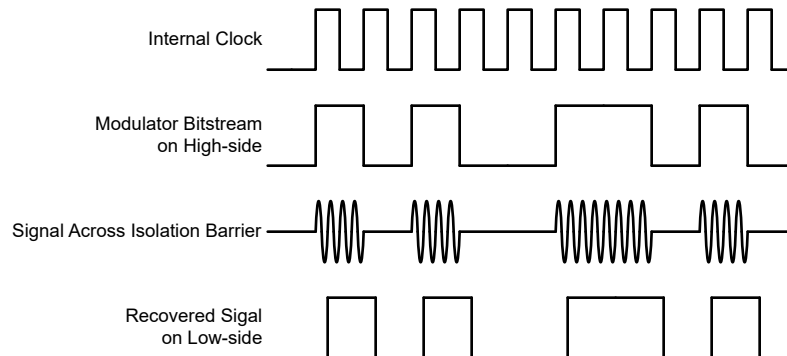

图 7-1. OOK-Based Modulation Scheme
The AMC1351 uses an on-off keying (OOK) modulation scheme, as shown in 图 7-1, to transmit the modulator output bitstream across the SiO₂-based isolation barrier. The transmit driver (TX) shown in the Functional Block Diagram transmits an internally-generated, high-frequency carrier across the isolation barrier to represent a digital *one* and does not send a signal to represent a digital *zero*. The nominal frequency of the carrier used inside the AMC1351 is 480 MHz.